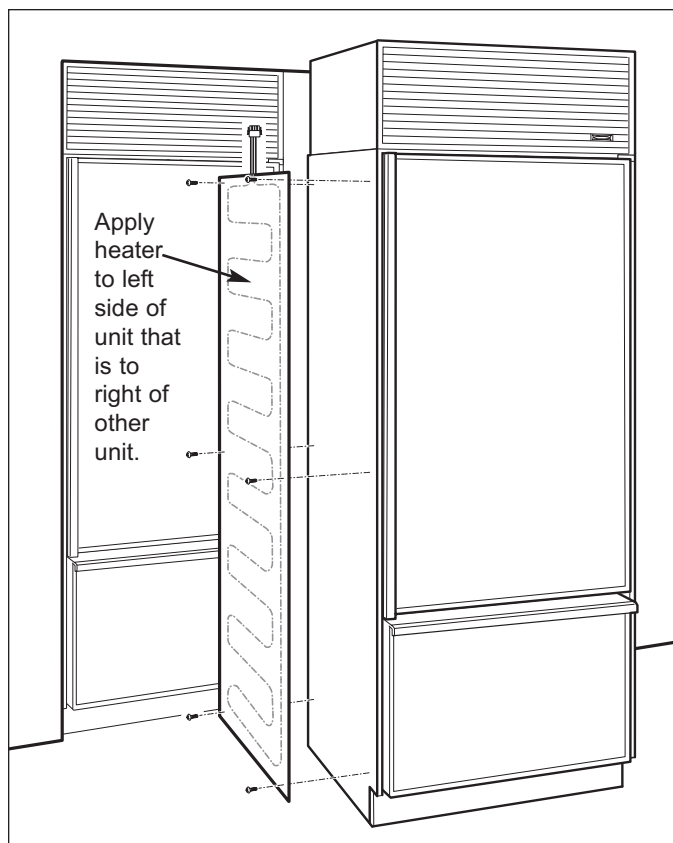

Figure 2-2. Dual Unit Heater
- Sales Accessory part #TTDUAL should be utilized. (See Figure 2-2)